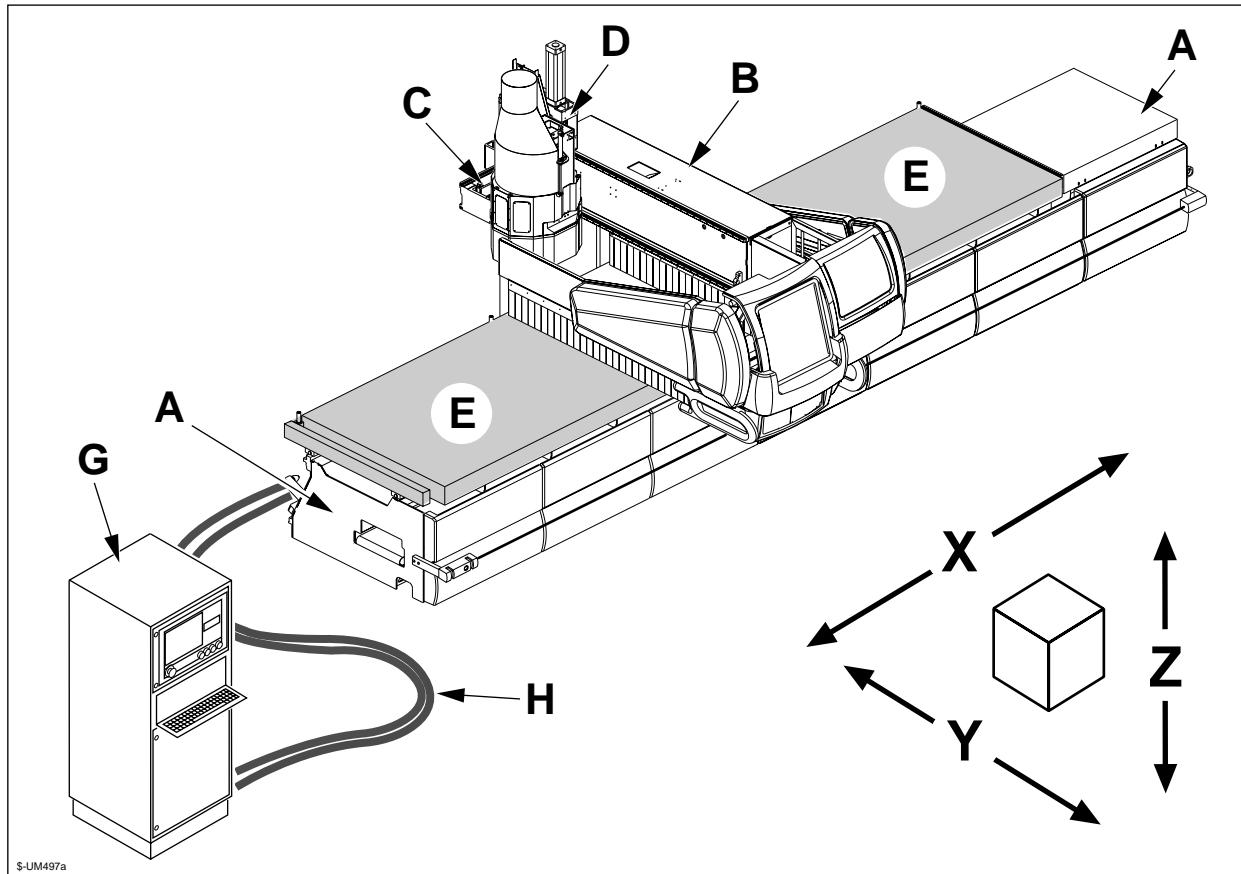

Fig. 1.2
- the load-bearing base A fig. 1.2)